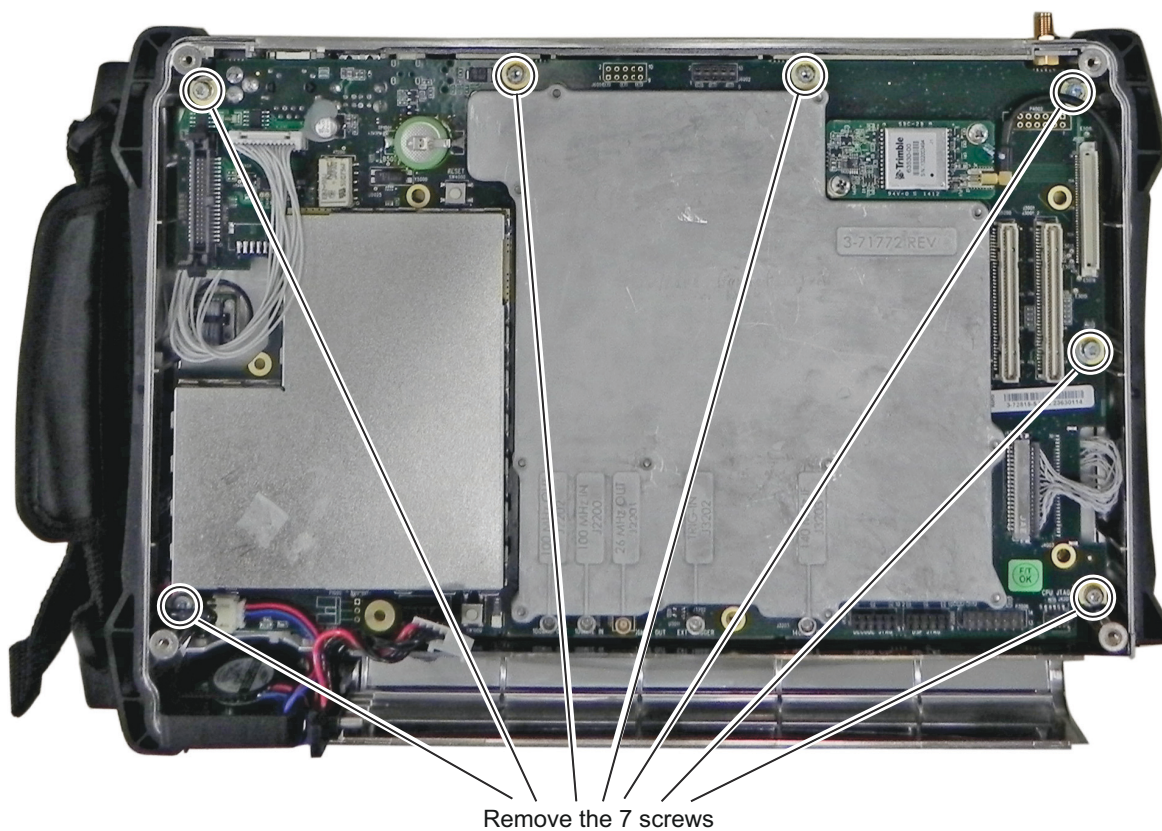

Figure 8-7. Remove the 7 Screws Retaining the Main PCB Assembly
7. Remove the 7 Torx (T10) screws retaining the Main PCB Assembly to the BTS Master case (Figure 8-7).